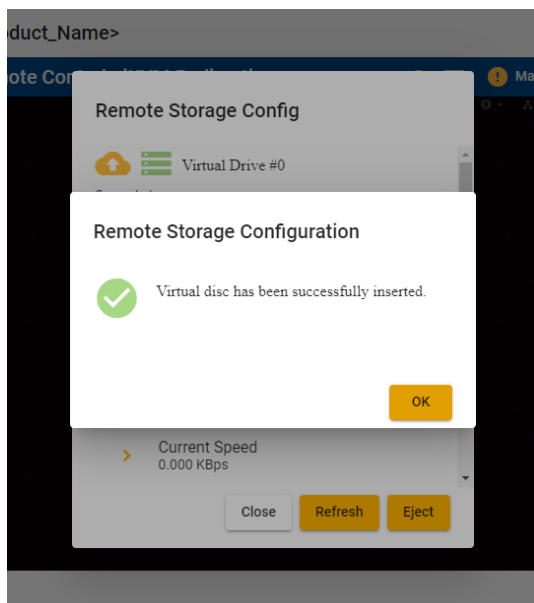

Figure 99: Virtual Drive Successfully Mounted via Remote Storage (Web)
2. Once the virtual device has been mounted successfully, the Status icon  beside Virtual Drive #0 will turn green, the dialog box "Virtual disc has been successfully inserted" will appear and the image shown in web session dialog will be uploaded as in Figure 99. The